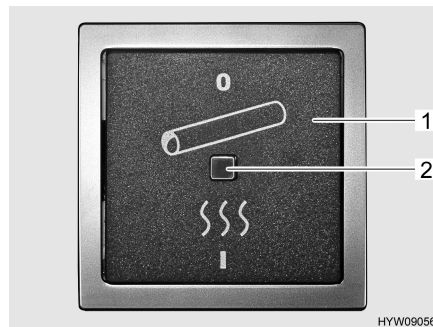

Fig. 77 Switch for electrical waste water pipe heating
- Set rocker switch (Fig. 77,1) to the "I" position. The indicator lamp (Fig. 77,2) on the switch is illuminated.
- Set rocker switch (Fig. 77,1) to the "0" position. The indicator lamp (Fig. 77,2) on the switch goes off.